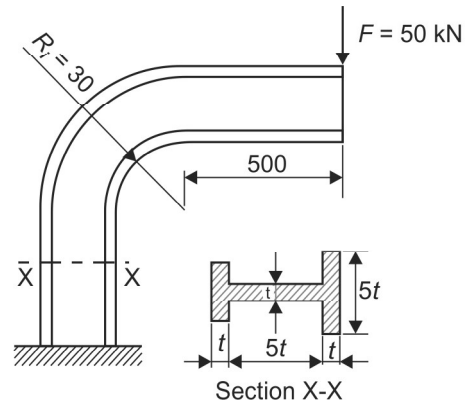

Fig. M1.2
2. Taking a permissible stress in the material as 100 MPa, estimate the thickness ' t ' for the cross section shown in Fig. M1.2. Determine the maximum stress induced in the material of the member shown considering curved beam effect. By how much the factor of safety is reduced if the ultimate strength of the material is 440 MPa. (20 Marks)